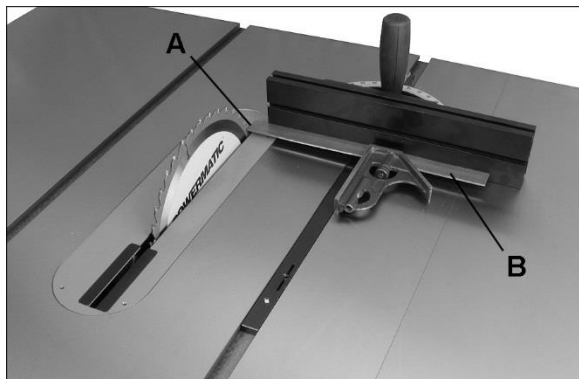

Figure 8-10
See Figures 8-10 and 8-11.
3. Mark one tooth (A, Figure 8-10) with a grease pencil and position the tooth slightly above top edge of table at the front.
4. Raise miter gauge slightly out of its slot to serve as a shoulder. Using a sliding square (B) against the side of the bar, slide the scale over until it touches the tip of the blade, and lock scale in position.